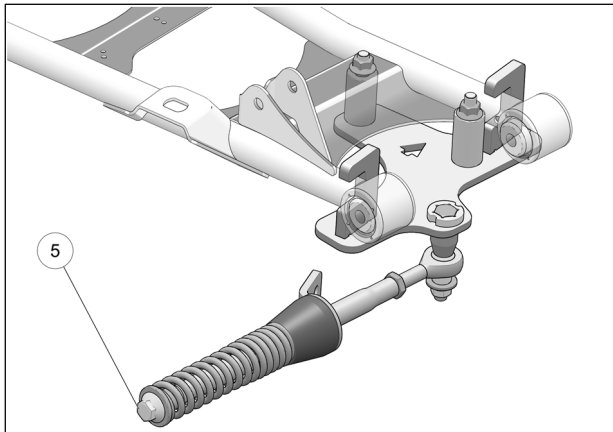

Fig. 8
- Verify that spring assembly bolt (5) is tightened to the recommended torque specification: 75 N•m [55 lb•ft]. Refer to Fig. 8